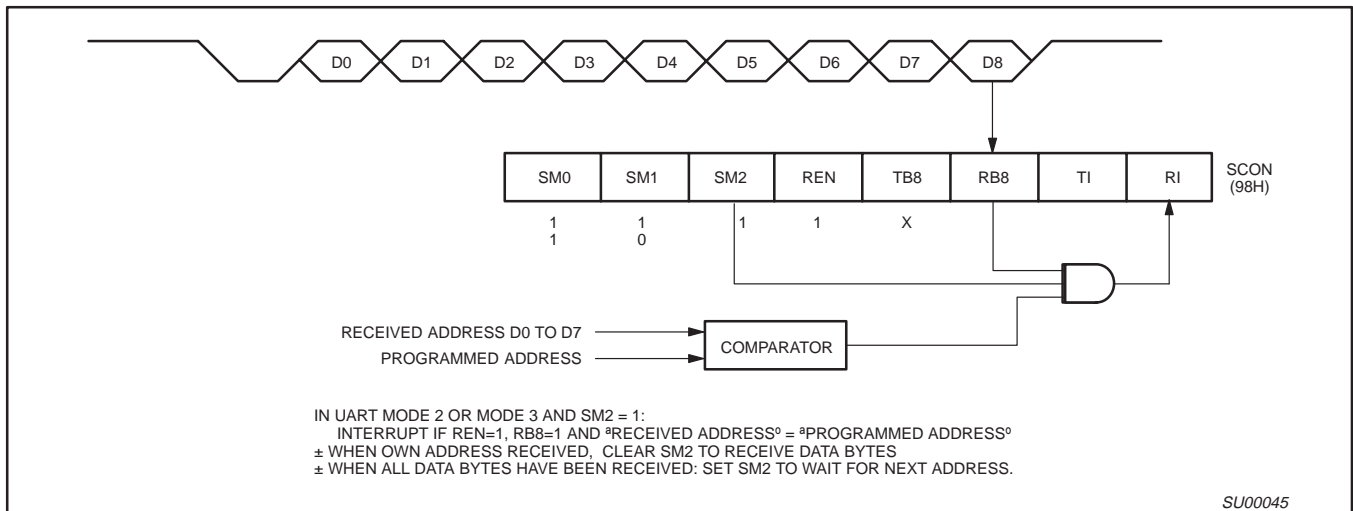

Figure 9. UART Multiprocessor Communication, Automatic Address Recognition
Automatic Address Recognition is a feature which allows the UART to recognize certain addresses in the serial bit stream by using hardware to make the comparisons. This feature saves a great deal of software overhead by eliminating the need for the software to examine every serial address which passes by the serial port. This feature is enabled by setting the SM2 bit in SCON. In the 9 bit UART modes, mode 2 and mode 3, the Receive Interrupt flag (RI) will be automatically set when the received byte contains either the ^aGiven^o address or the ^aBroadcast^o address. The 9 bit mode requires that the 9th information bit is a 1 to indicate that the received information is an address and not data. Automatic address recognition is shown in Figure 9.